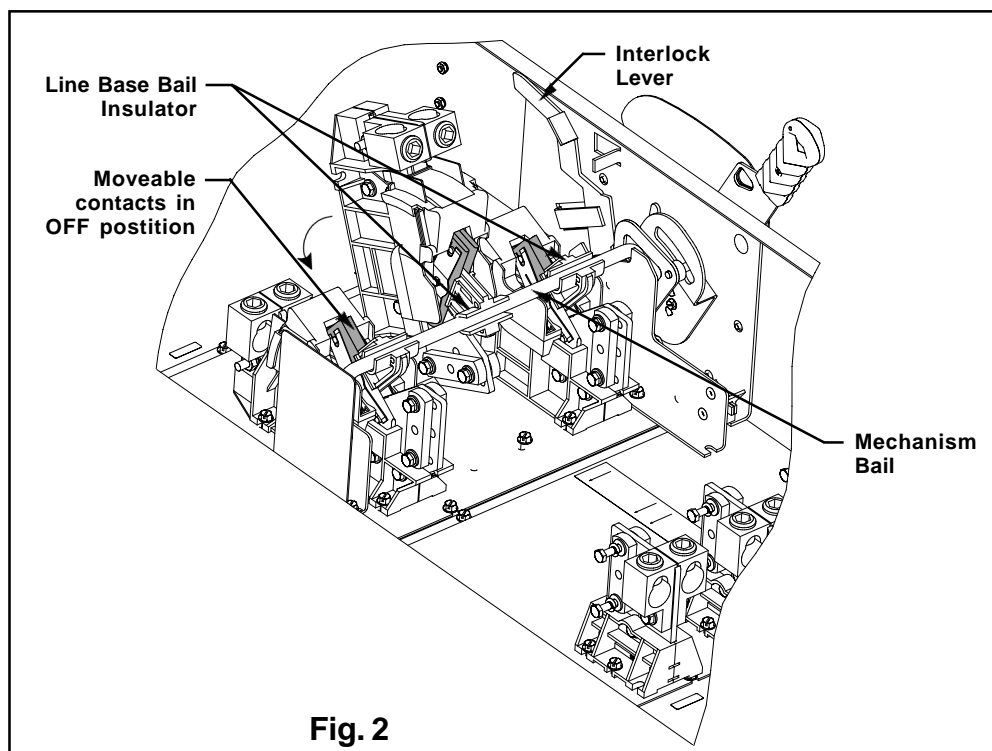

Fig. 2
3. Verify moveable contacts are in the **OFF** position. **See Figure 2.**
11. Place line base bail insulator into mechanism bail and rotate new line base assembly onto position, see **Figure 2**. Slide line base assembly into mounting screws left loosened above. Insert the two (2) $\frac{1}{4}$ - 20 x $\frac{1}{2}$ " mounting screws but do not tighten.
- a. Move the Safety Switch Handle to the **ON** position (Hold Interlock Lever below the front of the enclosure to operate switch with the door open. **See Figure 2**)